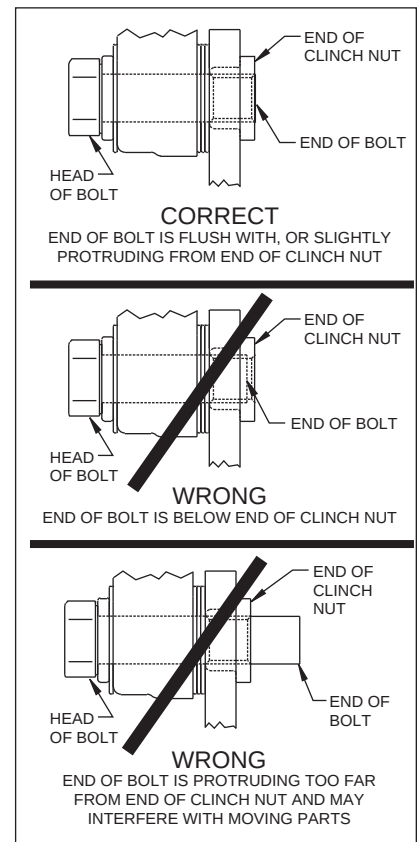

Figure 5.
- Install the dust cap (15) onto the hub (6). Friction created by the o-ring (16) on the dust cap (15) keeps it from unscrewing. The O.D. of the existing spindle washer may be larger than the I.D. of the dust cap (15) not allowing it to seat against the hub face. Some grinding on the washer O.D. may be necessary to clear the I.D. of the dust cap (15).
- NOTE:** Please reference the caution statement at the beginning of the assembly instructions. Mount the caliper (17) onto the caliper bracket (1) using washers (18) and bolts (19). Finger tighten. View the rotor (10) through the top opening of the caliper (17). The rotor (10) should be aligned in the center of the caliper (17). If not, adjust the caliper (17) by using 0.032 inch thick shims (20) placed between the caliper mounting bracket (1) and the caliper (17). Finger tighten and recheck alignment. Add as many shim washers (20) as necessary to achieve the correct alignment. **NOTE:** *The end of the bolt must be flush with or slightly protruding from the head of the clinch nut.* See Figure 5. Place spare shims (20) between washer and caliper mounting ear to achieve the proper mounting fastener configuration. Always use the same amount of shims on both the top and bottom caliper mounting bolts (19). Apply red *Loctite*® 271 to bolt threads (19) and torque to 40 ft-lb. Caliper mount bolts may be safety wired for additional security.
- Install the disc brake pads (21) and secure using cotter pin (22).